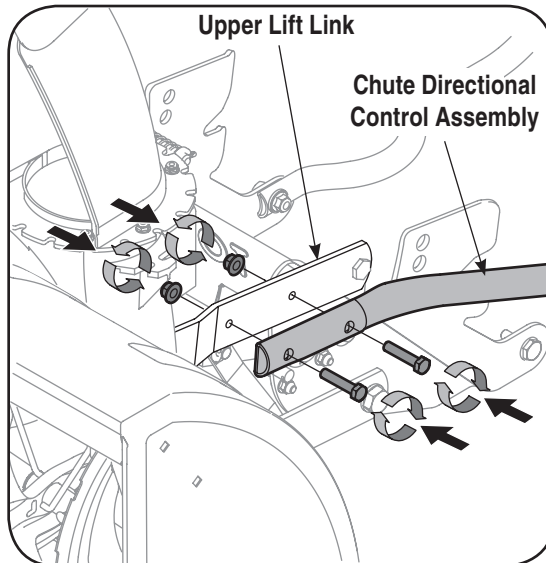

Figure 6-1
1. Attach the chute directional control assembly to the upper lift link on the left side of the auger housing. Assemble with two hex screws as illustrated in Figure 6-1. Secure with two flange nuts.